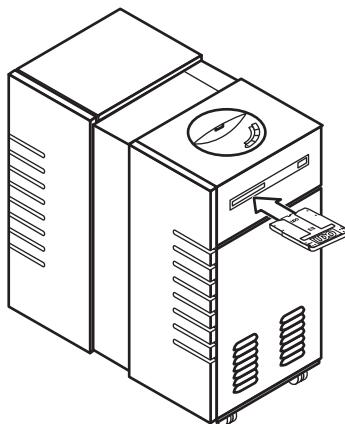

Figure 11: Loading media
2. Load UDO media into the drive by inserting the disk gently but firmly into the opening on the front panel, shutter end first, and with the side you want to access facing up (A or B). See Figure 11.